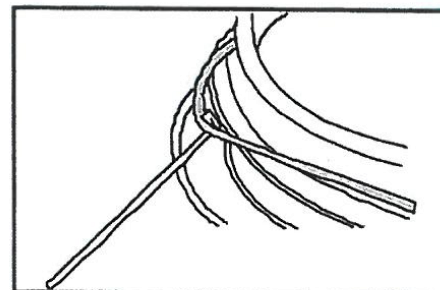

Figure 8
2. Place a pry bar or screwdriver under the o-ring and pull it out from the groove in the rim. Cut the o-ring with a knife to ensure that a new o-ring is used. (See Fig. 8)